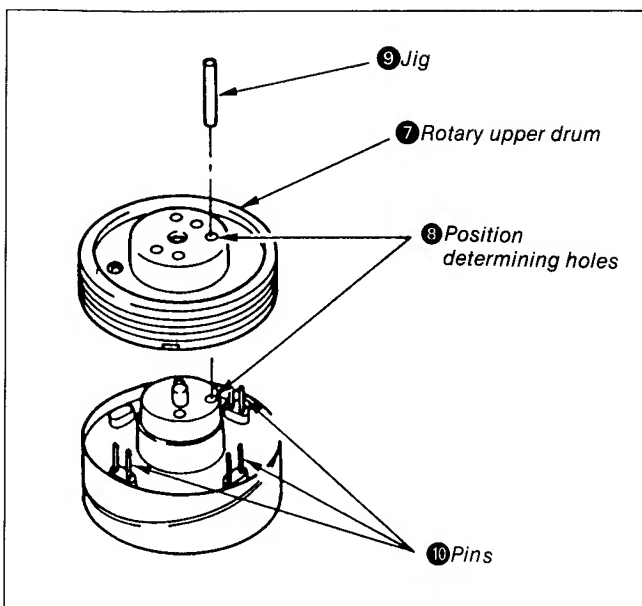

Fig. 8-40.
At this point, be sure to confirm that pin ⑩ appears from the hole of the board on which the rotary upper drum is mounted. (Fig. 8-40).
- 3) Remove jig ⑨ from upper rotary drum ⑦ and push it gently into lower one manually. However, when it cannot be inserted thoroughly, tighten two hexagonal socket head cap screws ③ alternately to secure it temporarily.
- 4) Insert jig ⑨ again into position determining holes ⑧, and be sure to confirm that it can be inserted smoothly. When it cannot be inserted, loosen 2 hexagonal socket head cap screws ③, and by referring to Removal 3), set it again.
- 5) Tighten 2 hexagonal socket head cap screws ③.
- 6) Solder pin ⑩ of a section.